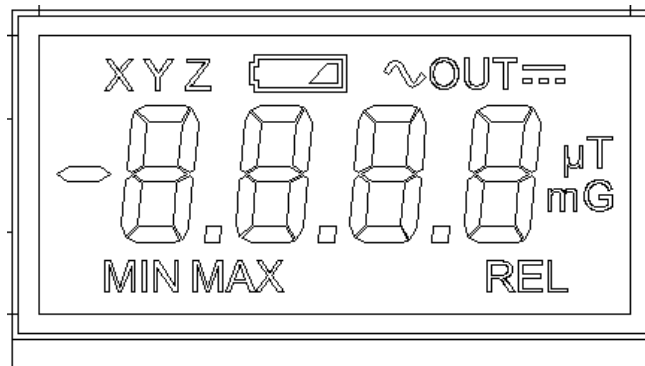
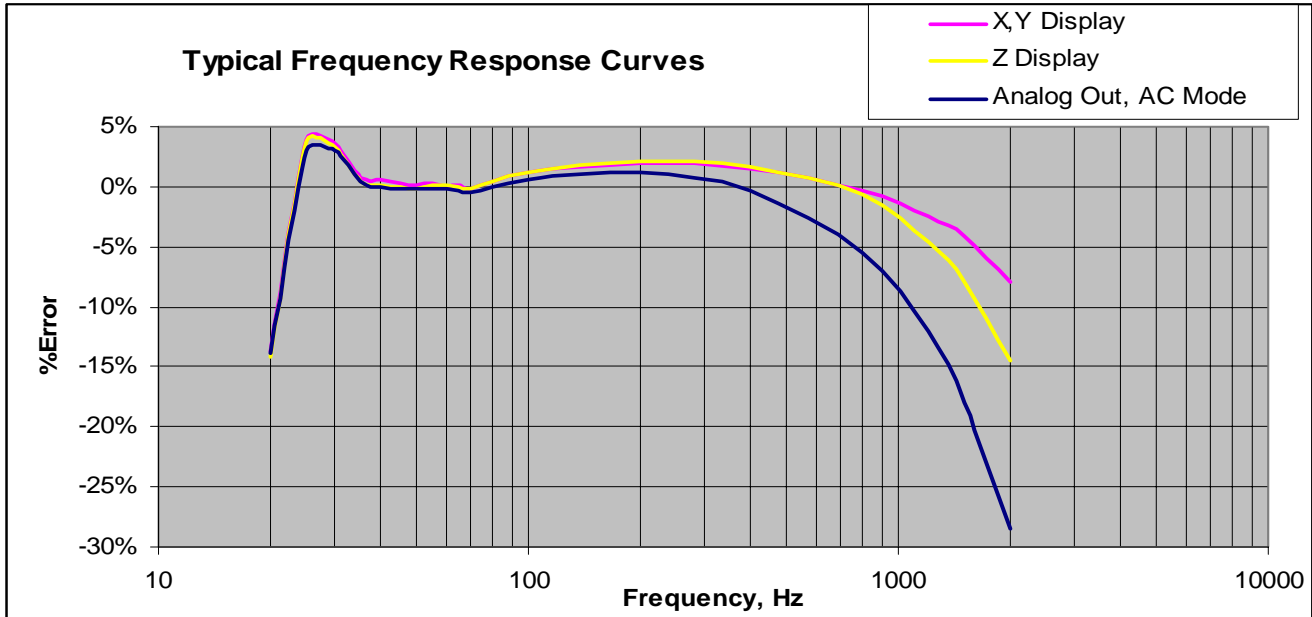

Figure 3-3
Figure 3.5
- 5 **RELATIVE / OUTPUT.** When REL is selected, the meter will establish the present field level as the “new” zero point. This feature is useful for measuring field changes relative to a field level other than zero. Model 4190 only: By pressing SHIFT- REL, the analog output is activated and a DC or AC signal proportional to the field magnitude will be available at the analog output 3.5mm connector. The 4100 Series does not respond to DC fields, but a DC analog voltage output proportional to the field level is available and may be more easily connected to a data acquisition system or other equipment. Calibration is set to 2.0 Vdc full scale when the analog output is set to the DC mode (OUT $\underline{\text{---}}$). If the meter is operating on the low range then 2.0Vdc will correspond to 200mG or 20 μ T. If the meter is operating on the high range, then 2.0Vdc will correspond to 2000mG or 200 μ T. For example, 1.32Vdc could represent either 132.0mG or 1320mG depending which range the meter is on. The output when set to AC mode will be a time-varying signal which will allow the user to view the waveform on an oscilloscope if desired. The AC output is calibrated to 1.0VacRMS full scale and follows the typical frequency response curve as shown in Fig. 3.5. Just like the DC mode, the AC output signal voltage may represent different field levels depending on whether the meter is operating in low or high range.
Low Battery Indicator: The low battery indicator is activated when the battery voltage falls below approximately 4.44 volts. The indicator is found on the top center section of the display. See figure 3-3.
UNITS: The units for the field level readings are found on the right-hand side of the display. By pressing the UNITS key, the meter will toggle between μT or mG . This function is operational while the HOLD or REL functions are active. See figure 3-3.
MIN / MAX (HOLD): (Model 4190 only) When the HOLD function is activated with the SHIFT- HOLD key sequence, MIN will be shown in the bottom left hand side of the LCD. Pressing the SHIFT-HOLD sequence a second time will display MAX, and a third time will turn the HOLD mode off again. The meter will record the highest reading when in MAX HOLD mode (or the lowest reading when in the MIN HOLD mode) since the time HOLD was activated or the reading was RESET. This function can be used in conjunction with RESET. By pressing the SHIFT- RESET key sequence, the held reading will reset to the present level. See figure 3-3.
REL: When performing a relative measurement, the REL indicator will become visible on the bottom right-hand side of the display. See figure 3-3.
Analog OUTPUT: When the analog output is activated, the indicator “OUT” is visible accompanied by either the DC (---) or the AC (~) symbol. This feature is only functional on the Model 4190. By pressing the SHIFT–OUTPUT key sequence the meter will switch between output off, DC OUT, or AC OUT. See figure 3-3. In DC OUT mode the signal is calibrated to 2.0Vdc full scale. In AC OUT the signal is a waveform calibrated to 1.0VacRMS full scale and rolls off at higher frequencies due to the filtering in the output circuit. This is typically $\pm 3\%$ from about 30 to 500Hz, decreasing to -3dB at 20 and 2000Hz. See Fig. 3.5 for a typical response curve. AC output (~) is only available in the single axis modes. In XYZ mode only a DC analog output is available.